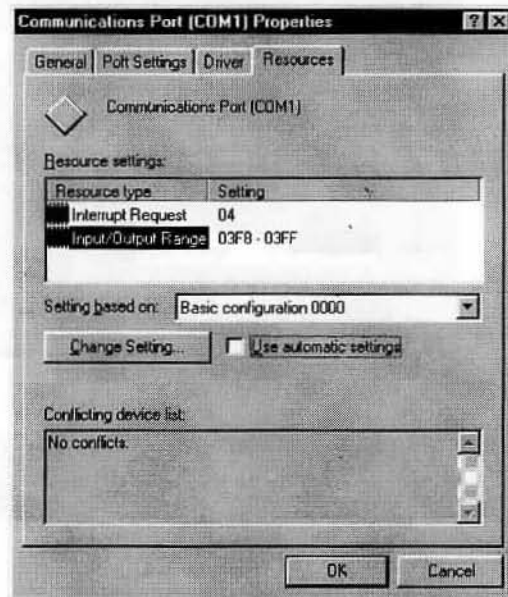

Figure 2-3
- Uncheck *Use automatic settings* check box (see **Figure 2-3**).